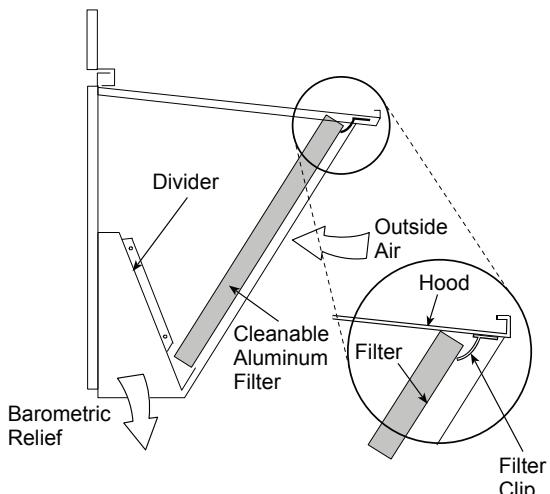

Fig. 13 – Economizer Filter Installation
5. Open the filter clips located underneath the hood top. Insert the aluminum filter into the bottom filter rack (hood divider). Push the filter into position past the open filter clips. Close the filter clips to lock the filter into place. See Fig. 13.